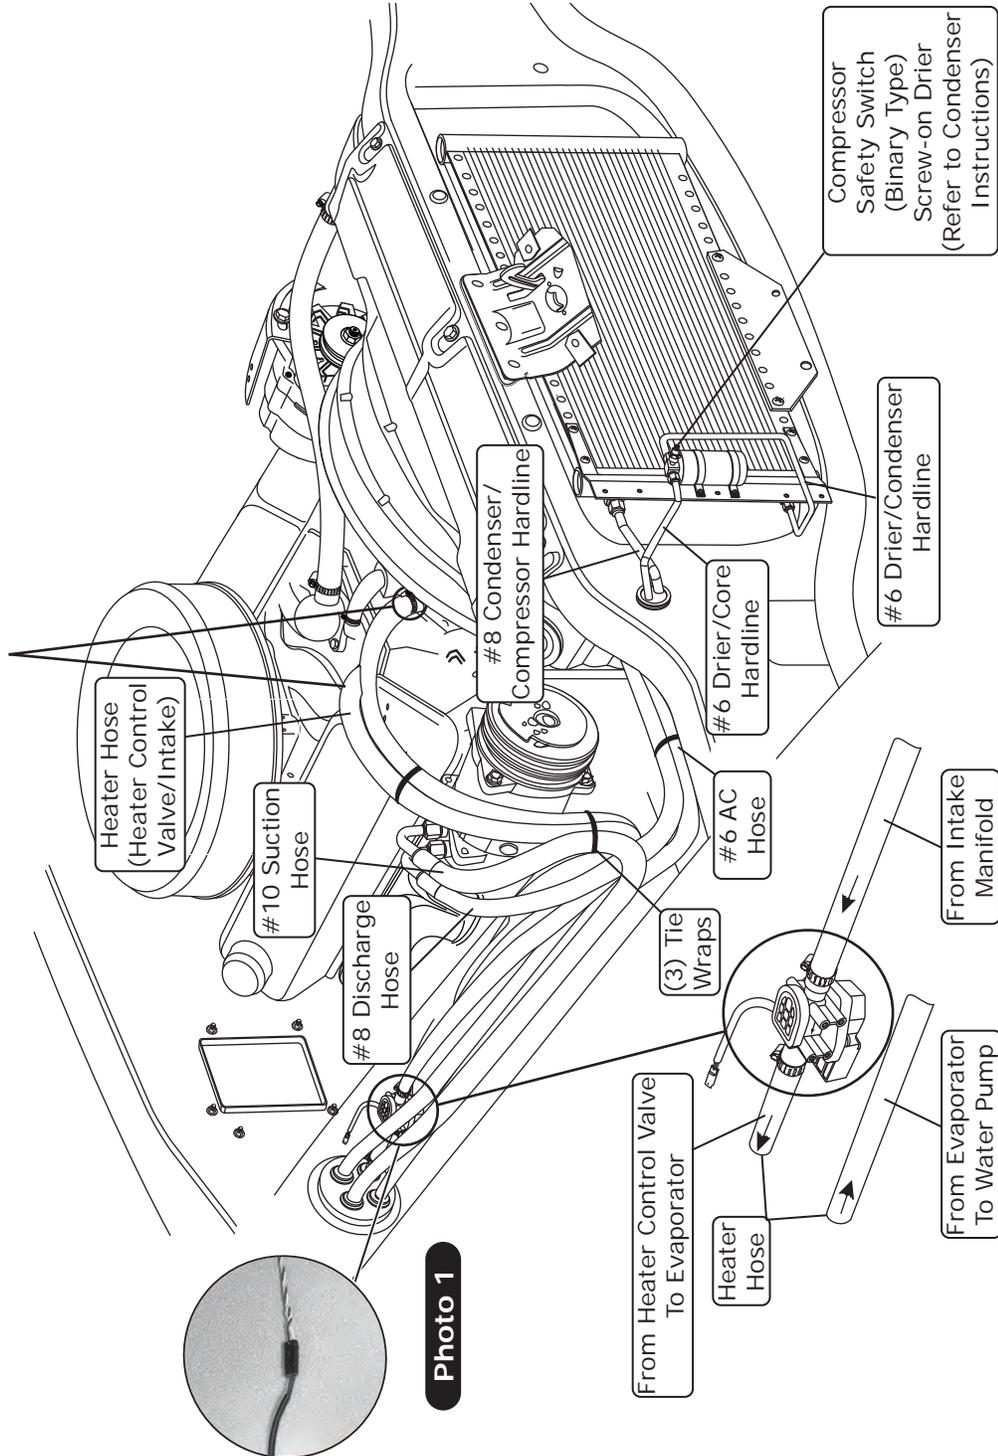

Figure 1
2. Route a piece of heater hose from the intake to the bottom heater fitting of the heater core as shown in Photo 2, Page 16, and Figure 1, below. **NOTE: Install the heater control valve in line with intake manifold (pressure side) heater hose. Secure it using hose clamps as shown in Figure 1, below. Also note proper flow direction.**